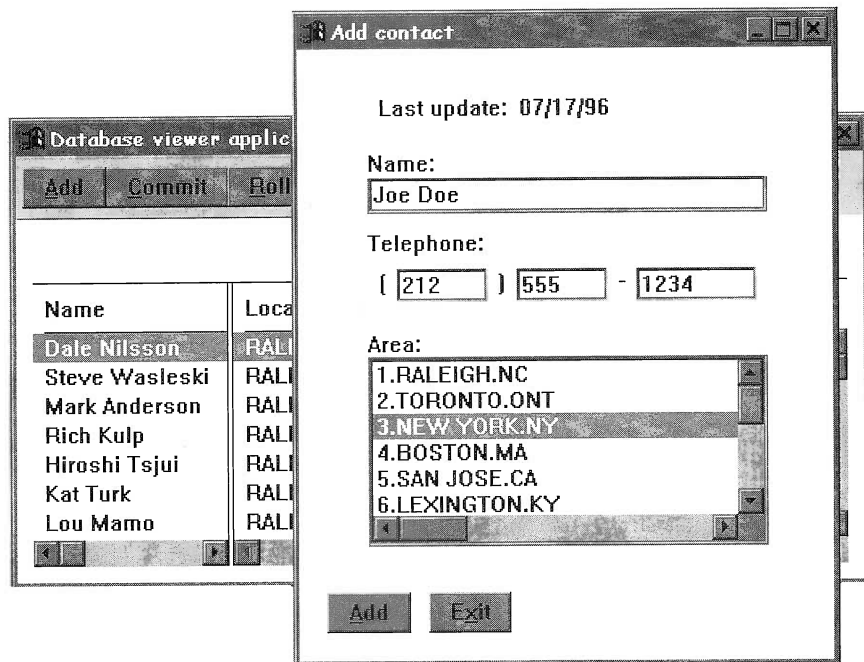

Figure 219: Inserting John Doe into the database
- ☐ Once the application is running, press the Add button, which creates a new **Add contact** window as shown in Figure 219.